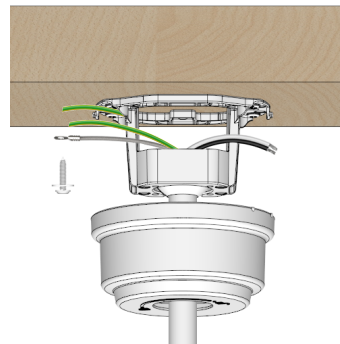

Fig. 4.2
4.2 Attach the other end of the safety cable to a secure location. Fasten the safety cable to the ceiling using a screw and washer (not included), as depicted in Fig. 4.2.